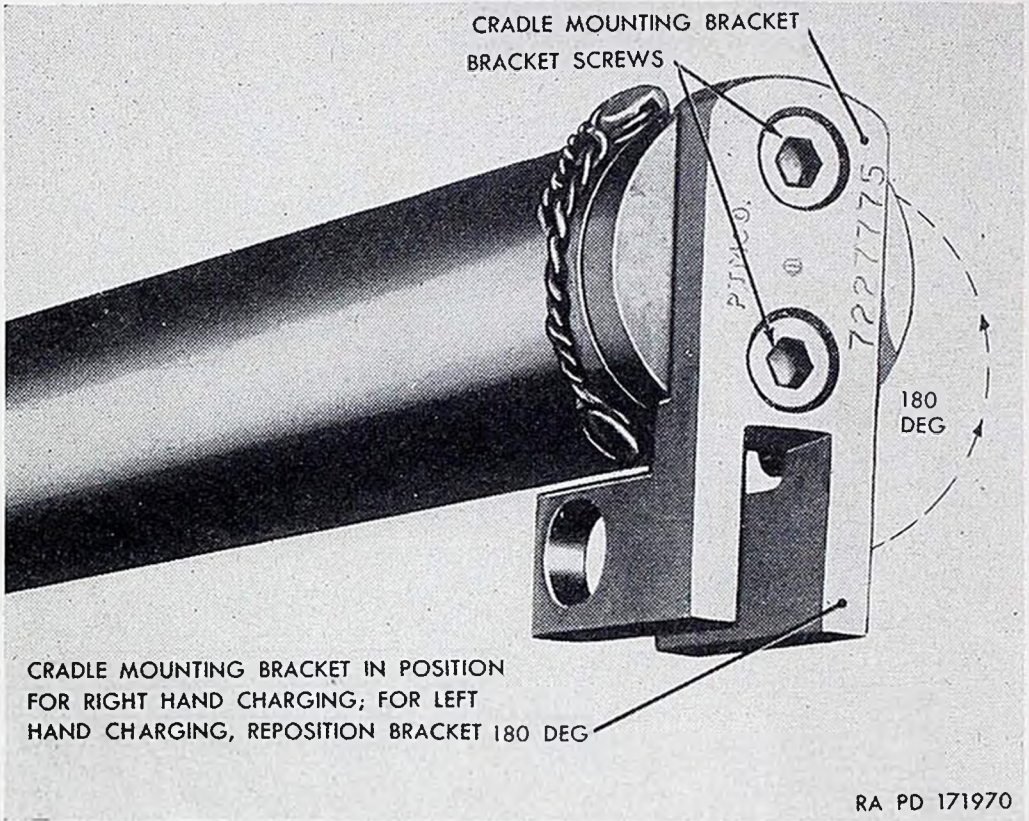
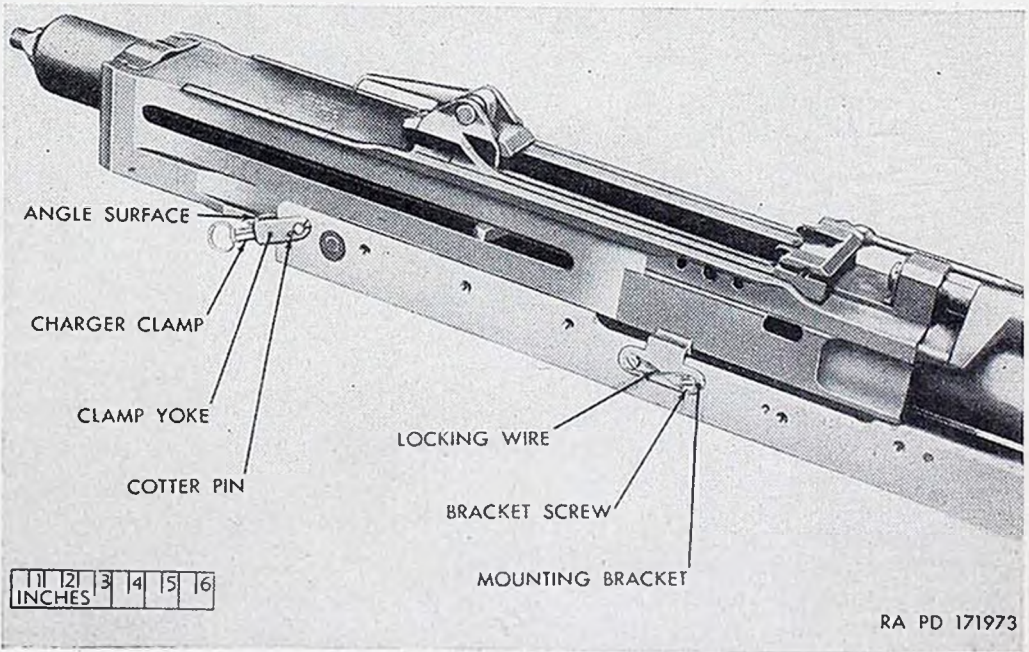
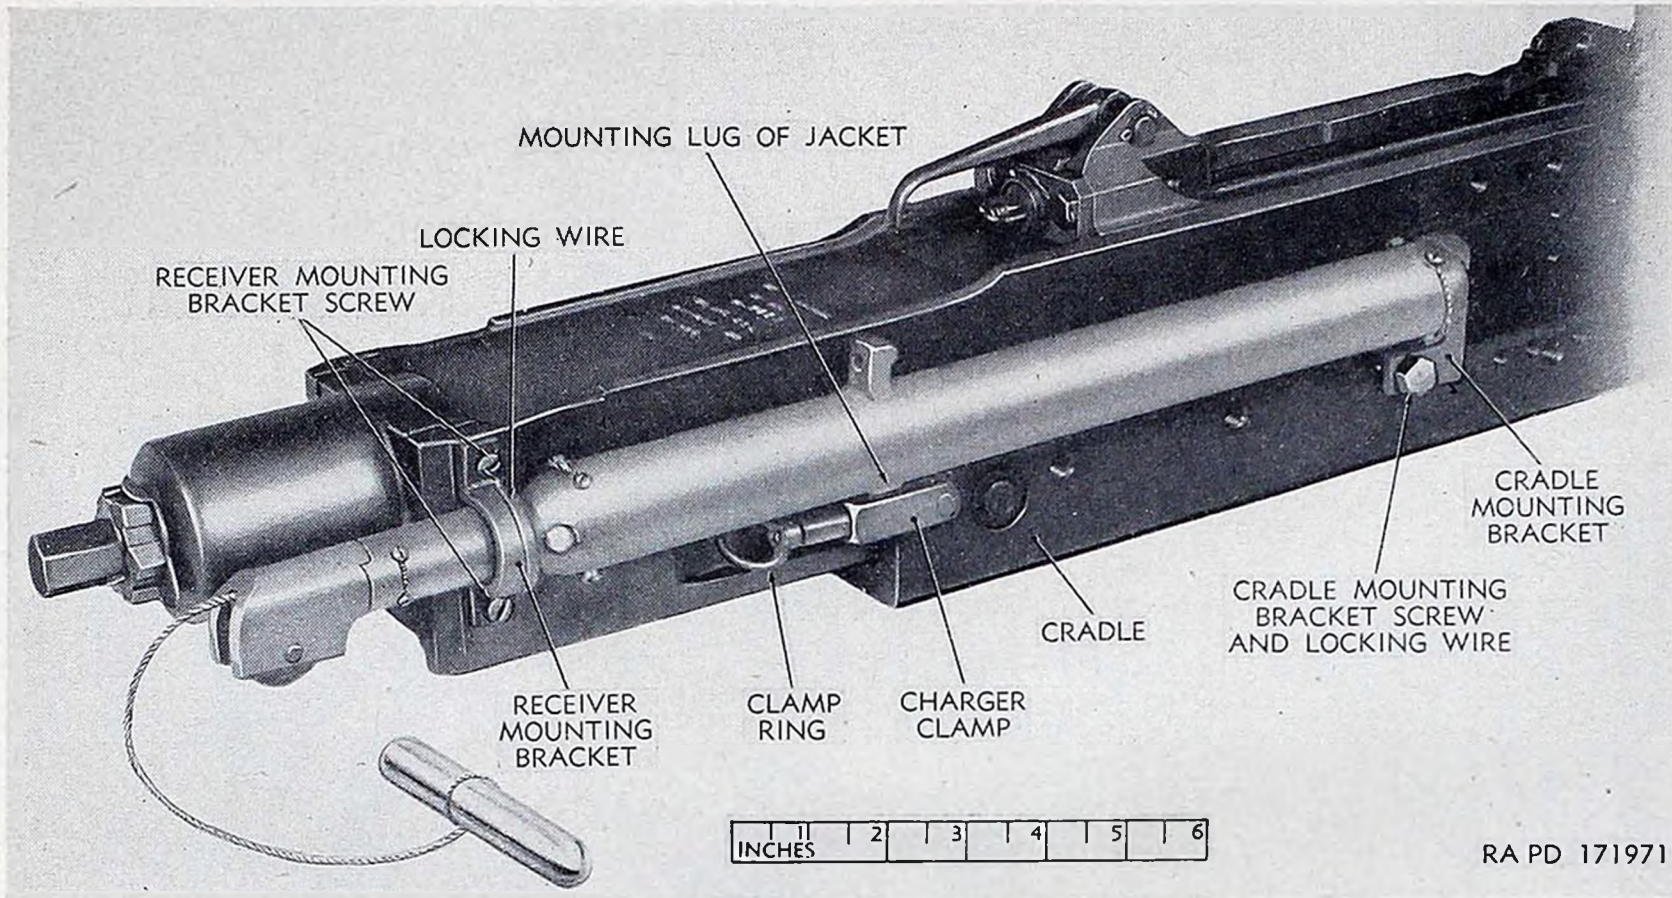

Figure 19. Adjusting 20-mm manual charger M6 for right-hand or left-hand charging.
Figure 20. Installation of mounting bracket and charger clamp.
Figure 21. 20-mm manual charger M6 mounted on gun.
- (1) *Adjusting the charger for right-hand or left-hand charging* (fig. 19). Determine whether the charger is to be installed for left-hand or right-hand charging (par. 21a). If necessary, adjust for either right-hand or left-hand charging as follows:
- (2) *Mounting the charger.*
- (a) Secure cradle mounting bracket to cradle by means of the cradle mounting bracket screw and locking wire (fig. 21).
- (b) Attach charger clamp to rear end of cradle, using clamp pin, washer, and cotter pin (fig. 20). The washer should be installed on the inside of the cradle and inside the arm of the clamp yoke. The clamp yoke must be installed so that, as viewed from above, the angle surface in the crotch of the clamp yoke (fig. 21) can be seen.
- (c) Place charger on edge of cradle so that arms of cradle mounting bracket fits over side of cradle (fig. 21). Pull clamp ring rearward, swing charger clamp up into horizontal position, and release clamp ring so that clamp plunger fits into seat in lug of jacket.
- (d) Secure rear of charger to gun by means of receiver mounting bracket, receiver mounting bracket screws, and locking wire (fig. 21).
- (3) *Dismounting the charger* (fig. 21).
- (a) Attach mounting bracket to side of cradle by means of two screws and secure screws with locking wire (fig. 20). The flange of the bracket should be on the outside of the cradle and the curved seat of the bracket should be directly over the edge of the cradle.
- (b) Attach charger clamp to rear end of cradle, using clamp pin, washer, and cotter pin (fig. 20). The washer should be installed on the inside of the cradle and inside the arm
of the clamp yoke (fig. 20). The yoke must be installed so that, as viewed from above, the angle surface in the crotch of the clamp yoke (fig. 20) can be seen.